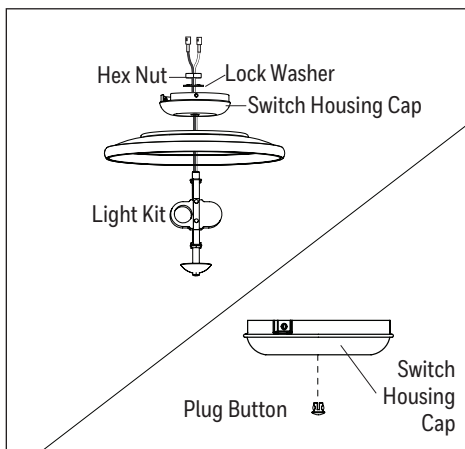

Figure 6.1
- Remove the preassembled hex nut and lock washer from inside the switch housing cap. Then remove the light pan and light kit from the switch housing cap. Install the plug button (Figure 6.1).